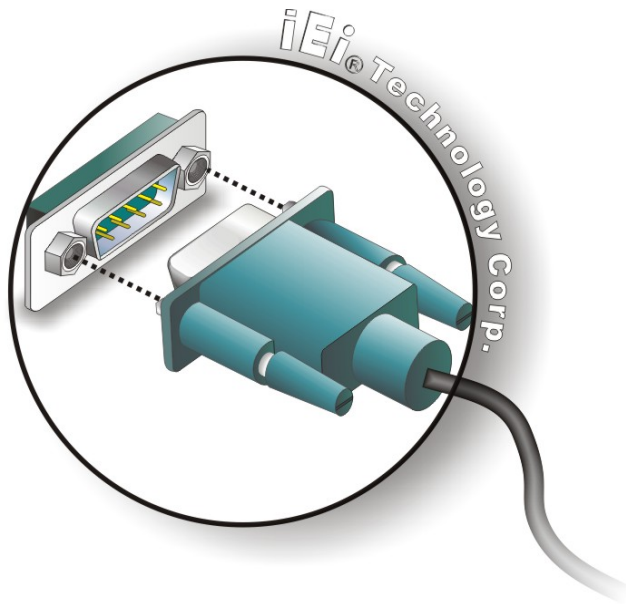

Figure 4-21: Serial Device Connector
Step 2: **Insert the serial connector.** Insert the DB-9 connector of a serial device into the DB-9 connector on the external peripheral interface. See **Figure 4-21**.